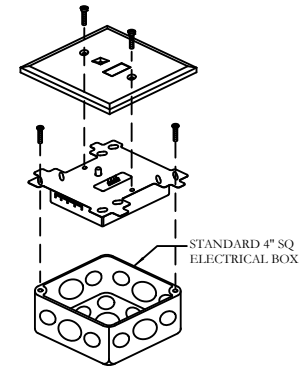

FIGURE 2
The DCP Dual Input Monitor module is mounted as shown in Figure 2 on page 2 of this instruction.
- 2) Secure the module to a U.L. listed electrical box (supplied by installer), as shown in Figure 2.